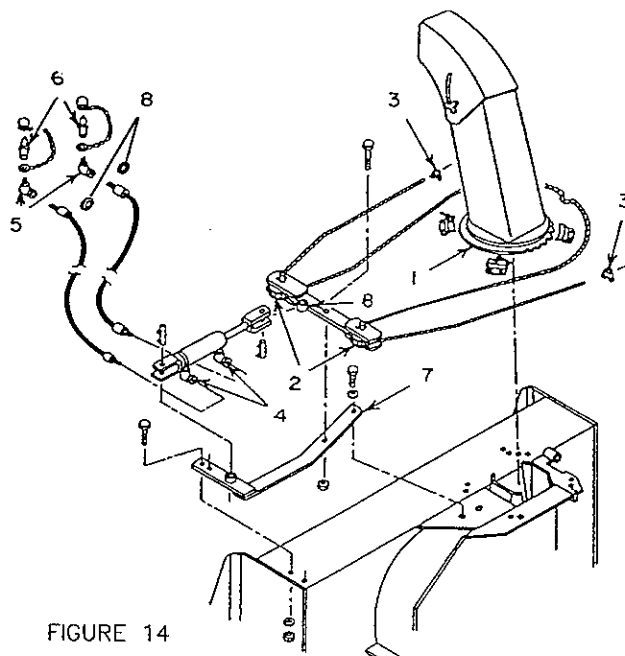

FIGURE 14
- i) With the chute opening facing forward and rotation arm parallel to blower sides, route the cable ends around the chute base (fig.14, item 1) away from each other, around the rotation pulleys (fig.14, item 2) from the inside to the outside. Secure cable ends to the front and rear side of the chute using the two cable clamps (fig.14, item 3). There should be at least 1" of cable protruding each clamp. Torque to 9-11 lbs/ft.
- j) Install a 90 degree elbow 3/8" male x 1/4" pivoting female (fig.14, item 4) in each cylinder port using thread sealant. With cylinder ports facing you and base end to your left, set both elbows at approximately 2 o'clock.
- k) Using thread sealant, install a 90 degrees elbow 3/8" male x 3/8" pivoting female (fig.14, item 5) at one end of each hose. Install a male quick coupler (fig.14, item 6, not included) with dust cap over each elbow (dust cap must be on threaded portion before installation).
- m) Install cylinder base end on rotation support (fig.14, item 7)(cylinder ports on underside), and rod end on rotation arm (fig.14, item 8) using provided pins and cotter pins.